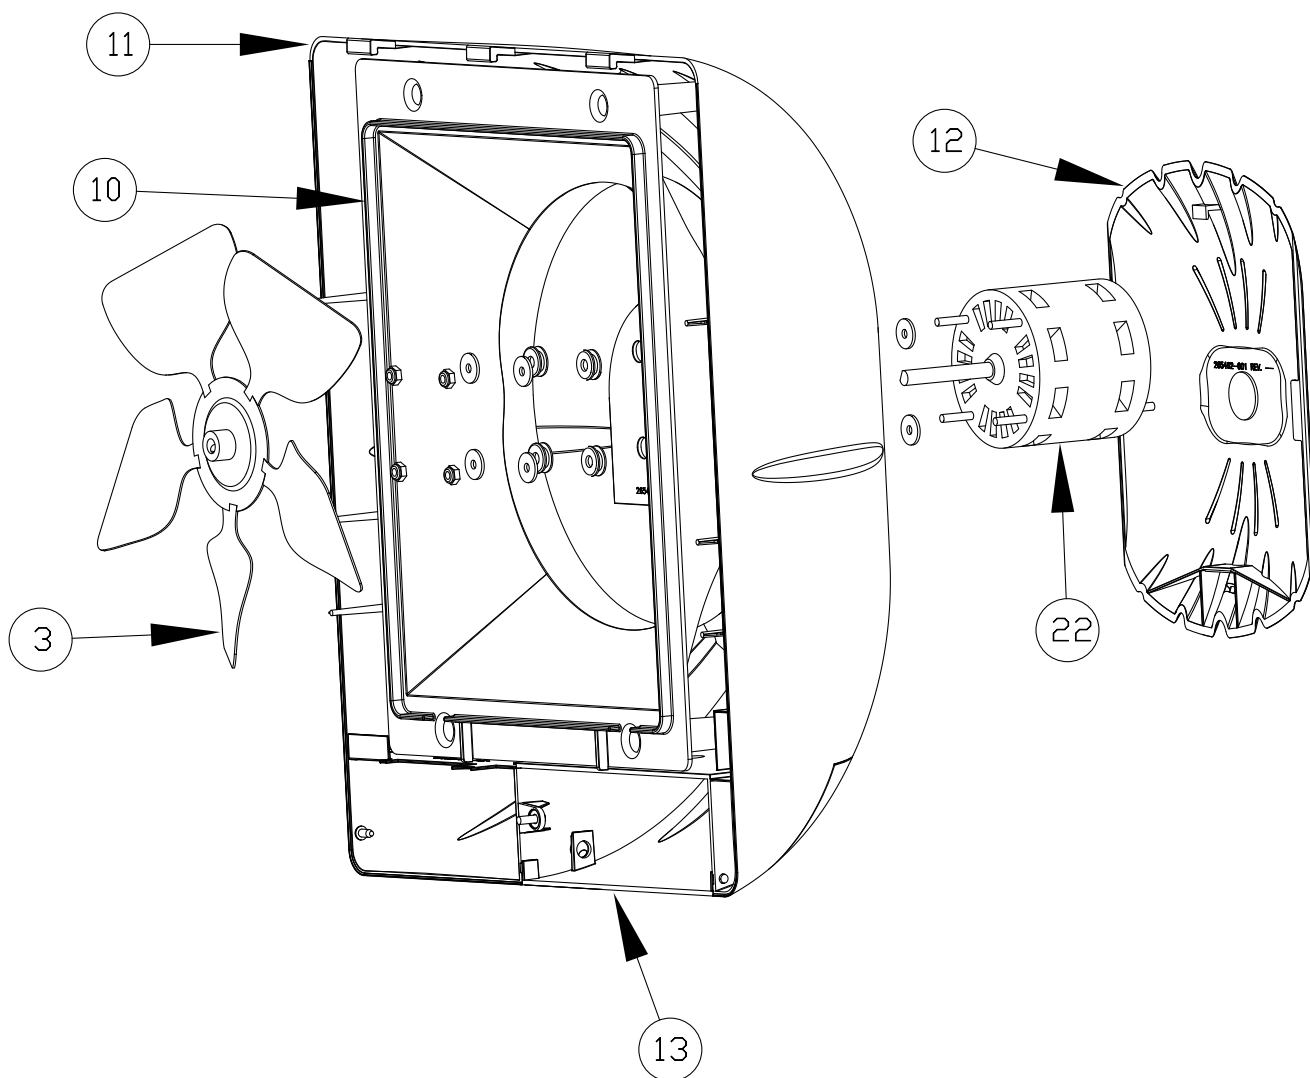

Figure 17
7. Install the new motor to the dome using the nuts, washers, & grommets that you removed from the old motor. Refer to Figure 17 to see installation order.